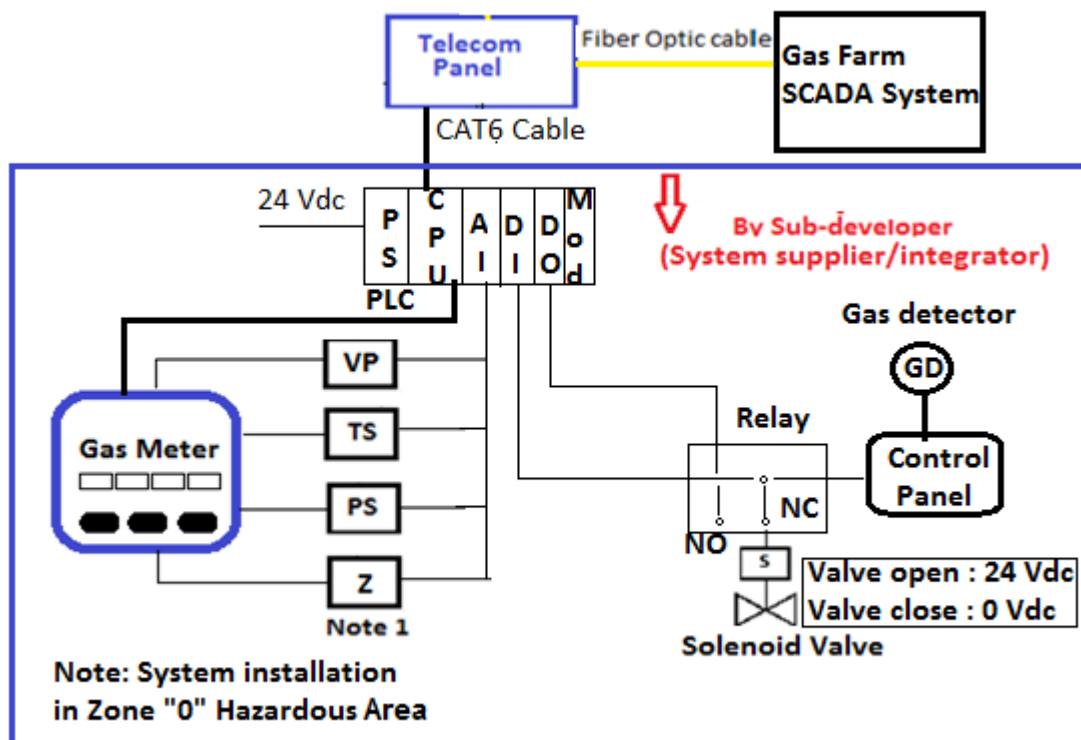

Figure 1 : PRMS smart meter system
- M. PRMS smart meter system architecture is illustrated in Figure 1.